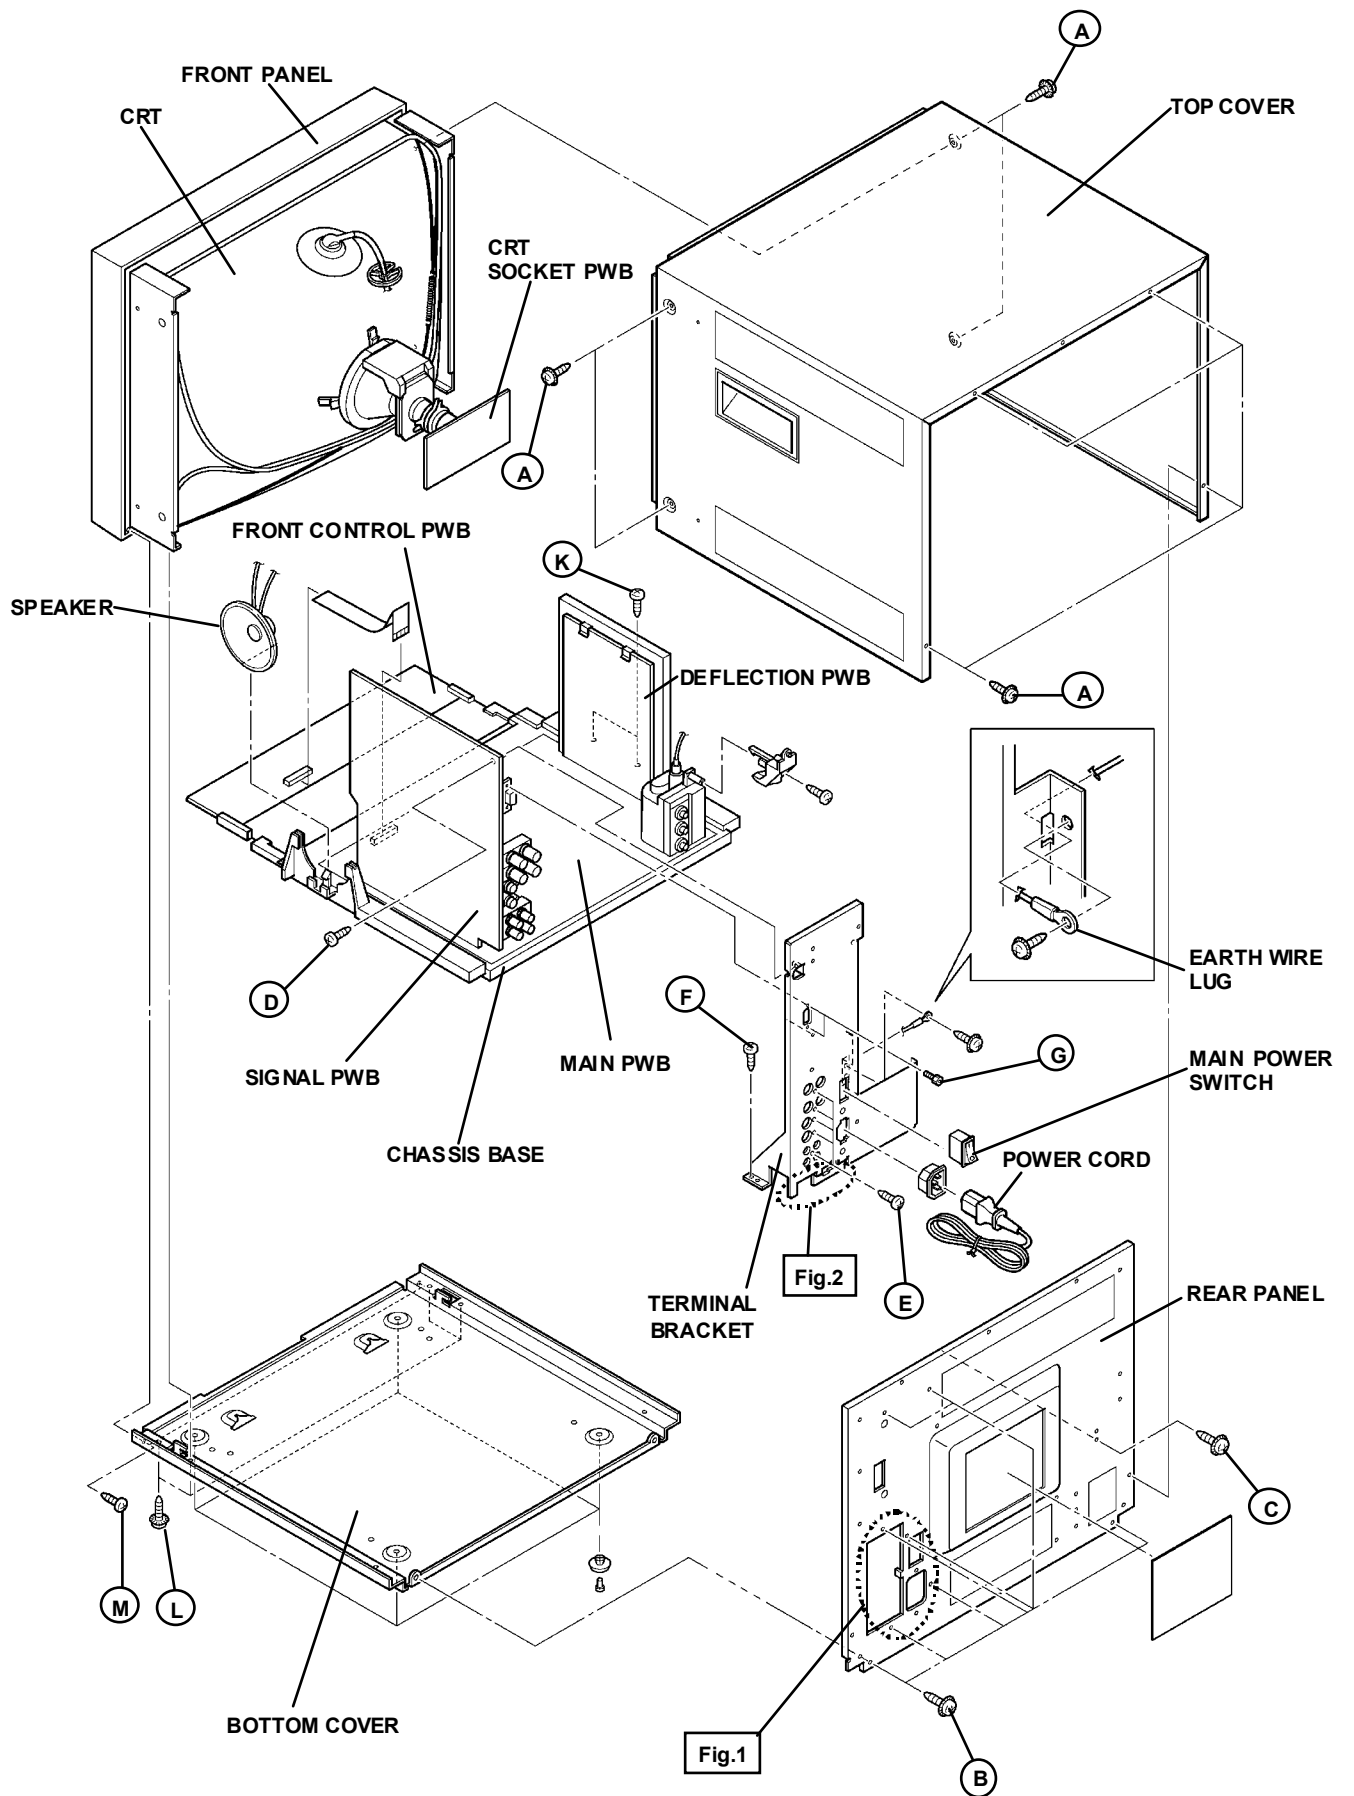

Fig.3
1. As shown in Fig.3, remove the 8 screws marked (A) .